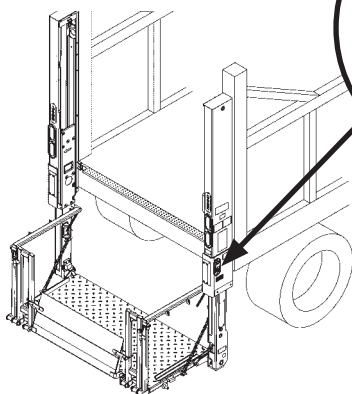
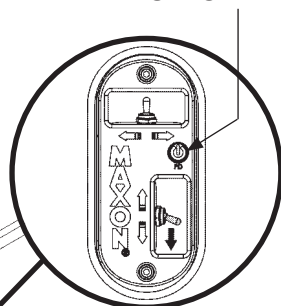

FIG. 13-1B
FIG. 13-1A
**POWER DOWN** button (if equipped) on column switch (FIG. 13-1A) lets operator lower platform by pressing the **POWER DOWN** button once and pushing and holding the toggle switch (**DOWN**) (FIG. 13-1B), while standing on the ground. The **POWER DOWN** button (FIG. 13-1A) illuminates to indicate the power down function is activated.